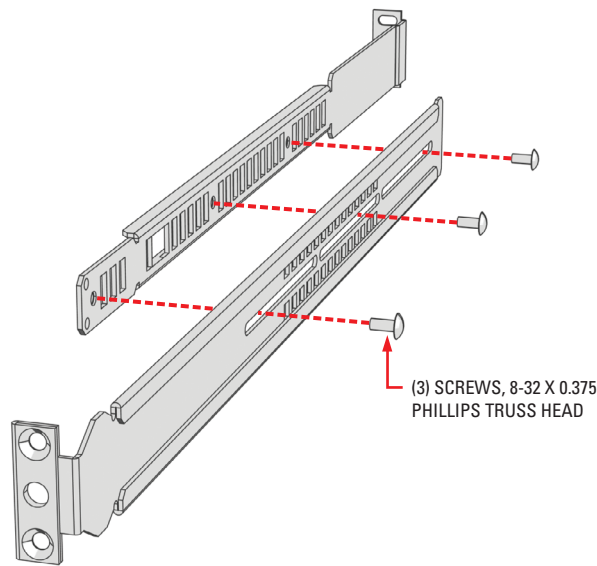

Figure 7. Assembling a Support Rail
2. Attach one front-mount rail to one rear-mount rail. Make sure the rails are mounted back to back, as shown in Figure 7. Depending on the rack, use two or three 8-32 x 0.375-inch Phillips truss head screws for each rail set. Leave the screws loose until step 9.